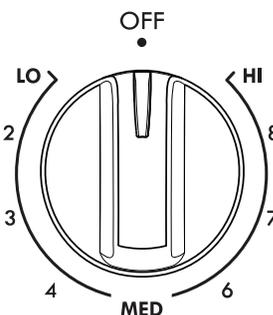

Figure 10: Single radiant element
2. Push in and turn the surface control knob in either direction to the desired setting (See Figure 10).